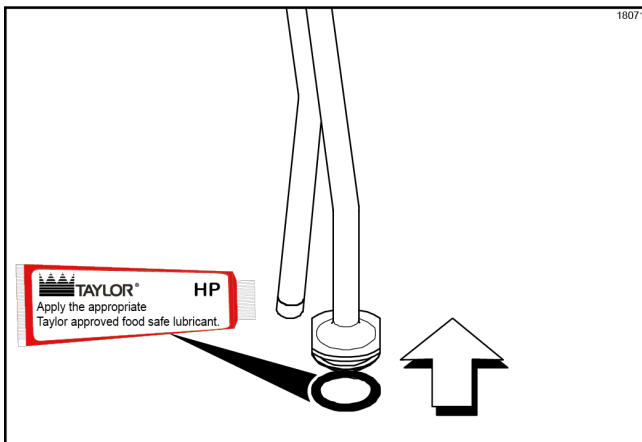

Figure-93
8. Lubricate and install the 1 in. O-ring onto the groove provided on the discharge tube. (See Figure-93)